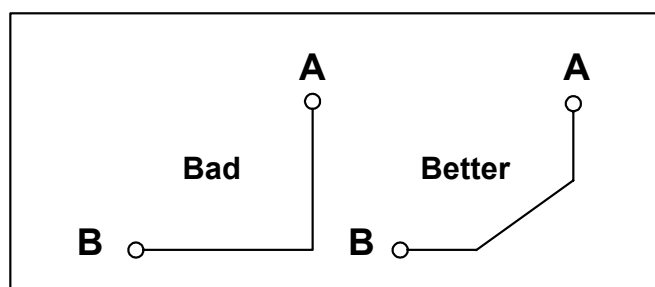

Figure 1. Signal Trace Angles
- 50-ohm impedance match resistors and 0.1uF common mode noise filter capacitors should be placed near the RTL8100C(L) chip.
- Avoid right angle signal traces. We recommend that the traces turn at 45° angles as shown in Figure 1. Sharp edges may add unexpected parasitic effects into the circuitry. Reducing the trace length will reduce trace inductance during quick energy bursts.